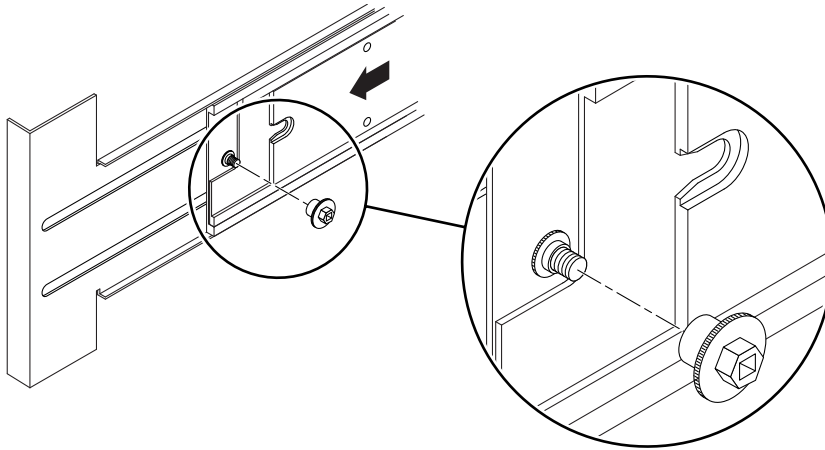

FIGURE 3-13 Inserting and Tightening the Retention Nut
5. From the rear of the system, insert and tighten the retention nut over the washer (FIGURE 3-13).
2. From the rear of the system, remove the retention nut over each washer (FIGURE 3-13).